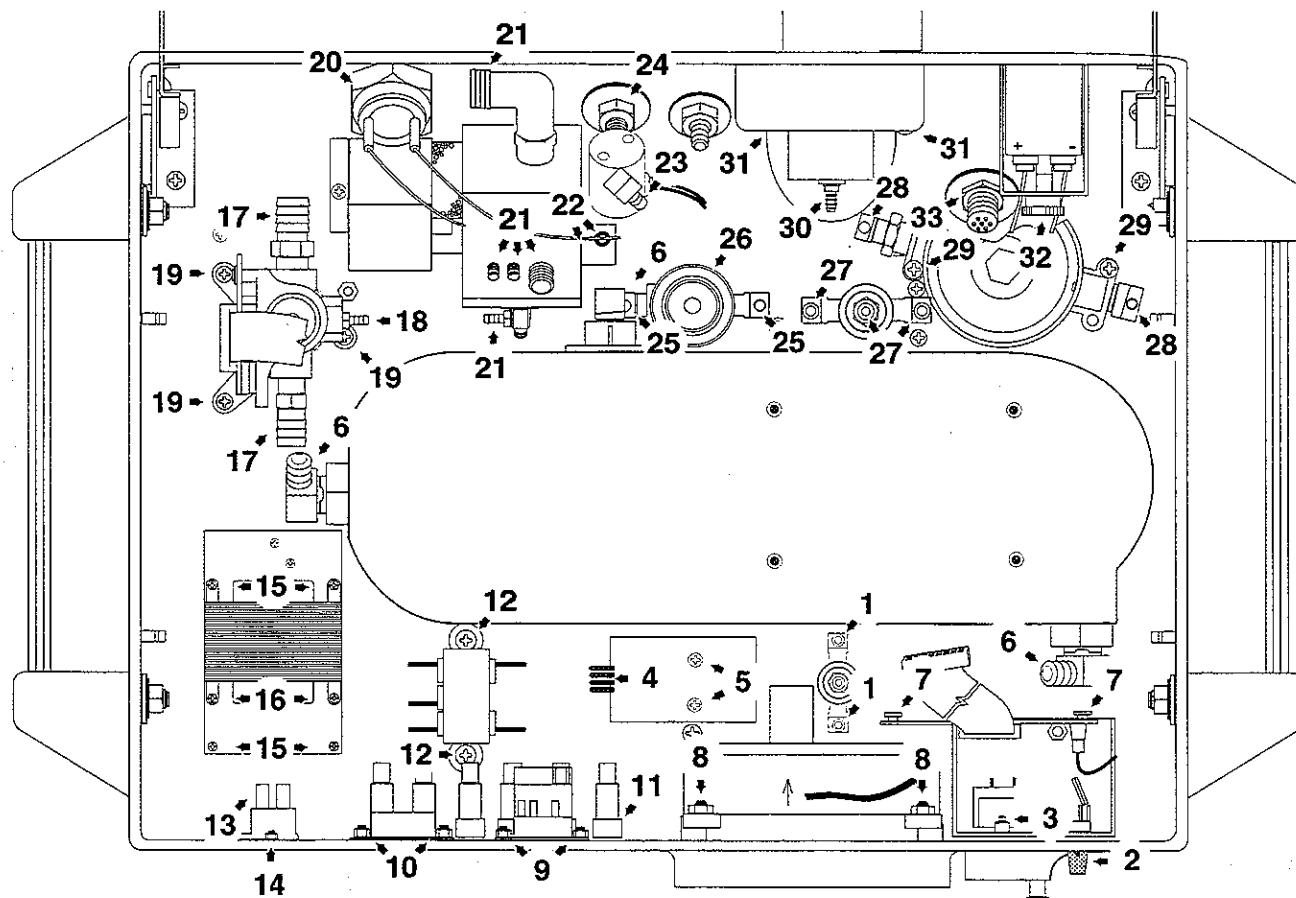

Figure 8-6
2. After marking for correct orientation, remove connector J45 from the PCB (Figure 8-6, Ref. 4).
3. Remove the two phillips screws securing the PCB to the ventilator chassis (Figure 8-6, Ref. 5).
2. Remove the three pneumatic connections to the Accumulator Assembly (Figure 8-6, Ref. 6).
2. Remove the 4 fan mounting screws (Figure 8-6, Ref. 8).
2. Remove the two phillips screws (Figure 8-6, Ref. 1) securing the mounting bracket to the chassis of the ventilator.
2. Remove the Alarm Loudness knob (Figure 8-6, Ref. 2) using an allen wrench.
3. Remove the two outlet mounting screws (Figure 8-6, Ref. 10) and remove the outlet from the inside of the ventilator.
3. Remove the two mounting screws (Figure 8-6, Ref. 3) using an allen wrench.
5. Using an allen wrench, remove the mounting screws and nuts from the Power Entry Module (Figure 8-6, Ref. 9).
3. Using an allen wrench, remove the mounting screws and nuts from the receptacle (Figure 8-6, Ref. 10).